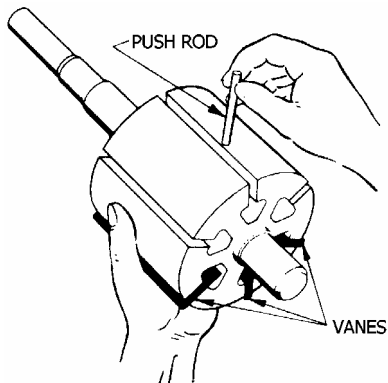

Figure 9 – Pushrod Installation
- b. Hold the three bottom vanes in place while inserting the three push rods (77). See Figure 9.
- c. Carefully insert the non-driven end of the rotor and shaft (13) into the pump casing (12).
- d. Install the remaining vanes (14) into the top positions of the rotor.